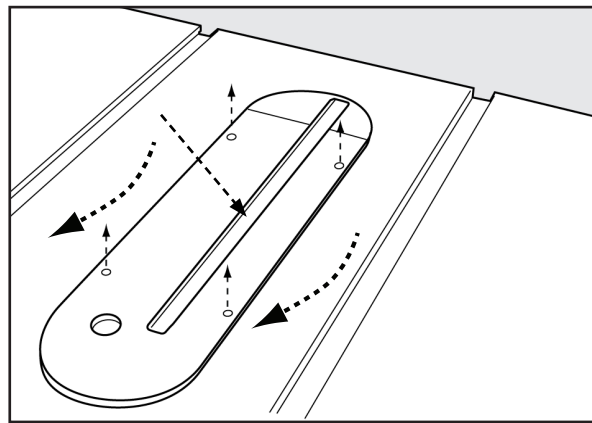

FIGURE 11B
4. To remove throat plate, lower blade below tabletop, then carefully slide the throat plate from out from the rear of the table to the front, keeping the blade centered within the slot on the throat plate. Figure 11B.